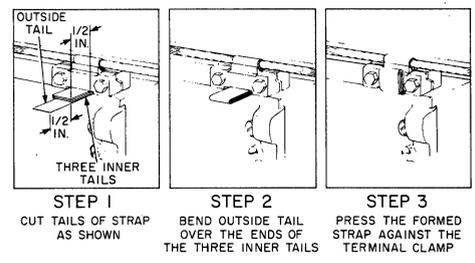

Fig. 5—Terminating Cable Supports
- (e) Terminate straps as shown in Fig. 5.